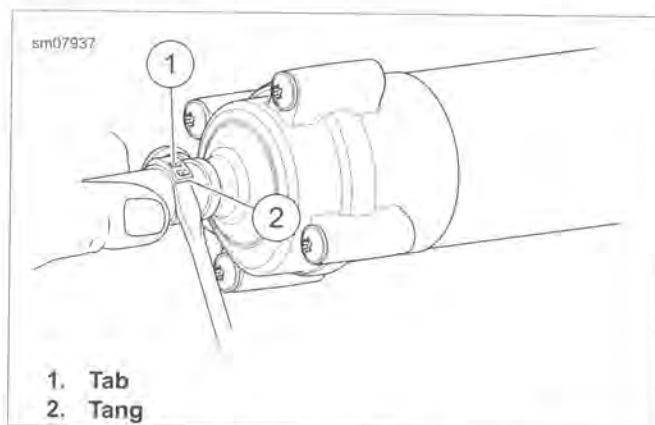

Figure C-5. Removing Crimp Clamp
1. See Figure C-5. Push the tip of a small screwdriver under end of tang (2).